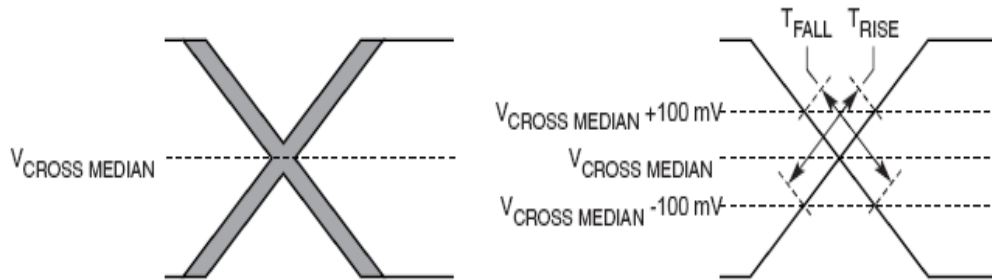

Figure 48. Single-Ended Measurement Points for Rise and Fall Time Matching
6. Matching applies to rising edge for $\text{SD}n_{\text{REF_CLK}}$ and falling edge rate for $\overline{\text{SD}n_{\text{REF_CLK}}}$. It is measured using a 200 mV window centered on the median cross point where $\text{SD}n_{\text{REF_CLK}}$ rising meets $\overline{\text{SD}n_{\text{REF_CLK}}}$ falling. The median cross point is used to calculate the voltage thresholds that the oscilloscope uses for the edge rate calculations. The rise edge rate of $\text{SD}n_{\text{REF_CLK}}$ should be compared to the fall edge rate of $\overline{\text{SD}n_{\text{REF_CLK}}}$, the maximum allowed difference should not exceed 20% of the slowest edge rate. See Figure 48.